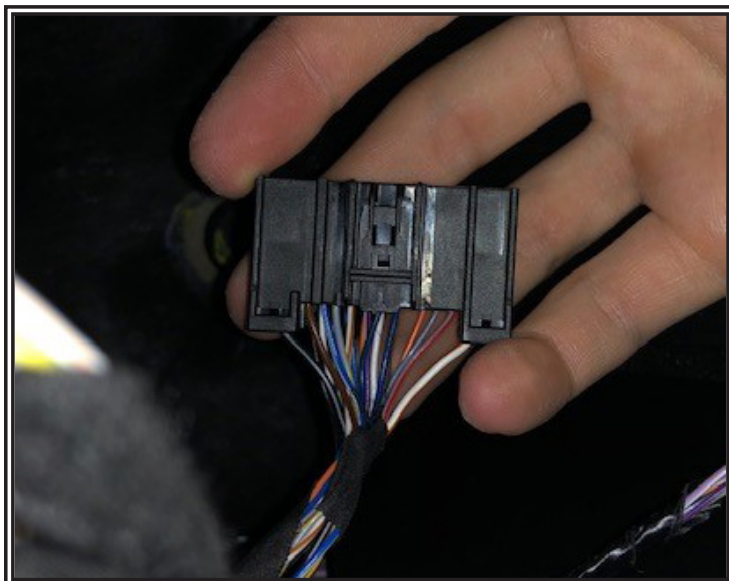

Figure 11
Step 4. Remove connector as shown in FIGURE 11.